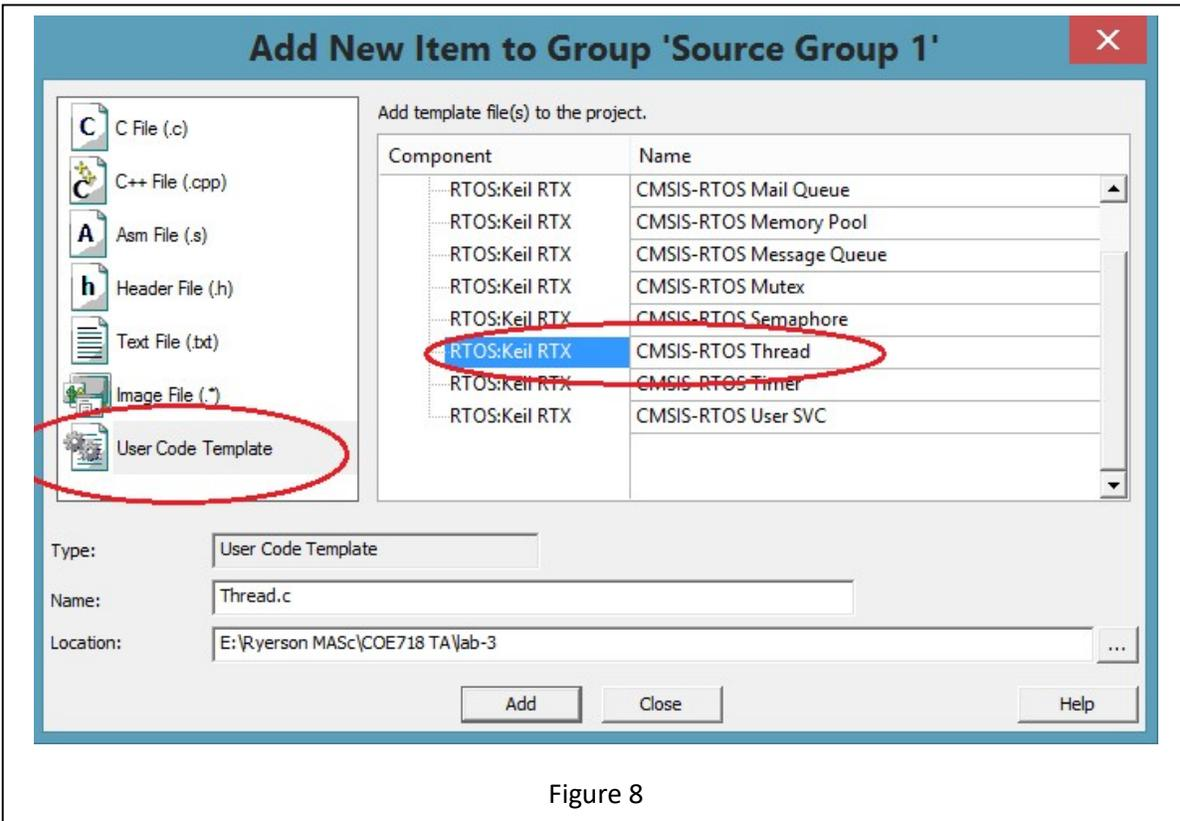

Figure 8
- Repeat and this time select CMSIS>RTOS:Keil RTX> CMSIS-RTOS Thread. Then click Add and another file will be added to your project as shown in Figure 8.